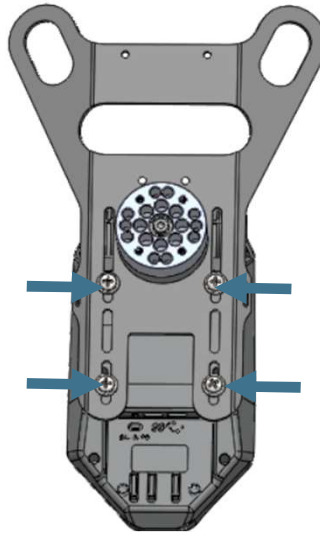

Figure 2
2. Mount the dock to the Rotational Assist Bracket using the hardware that came with the dock. (Figure 2)